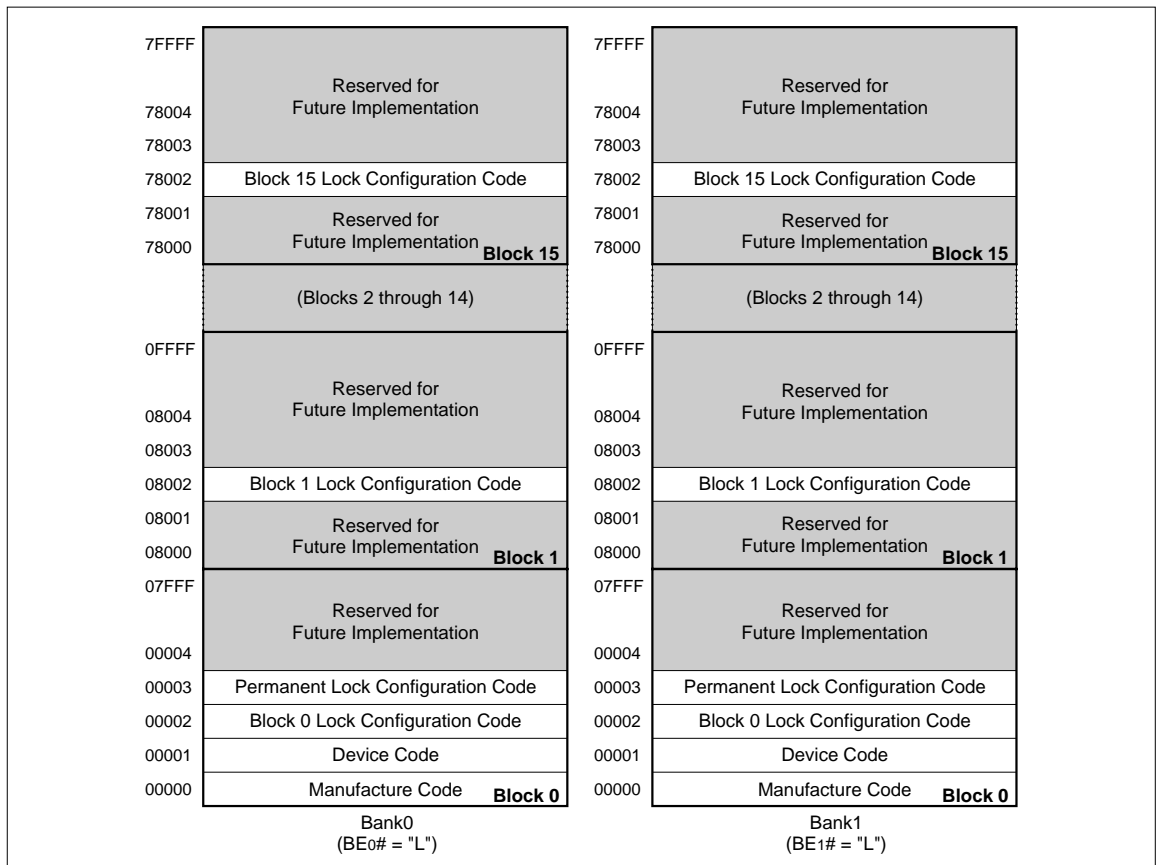

Fig. 2 Device Identifier Code Memory Map
The read identifier codes operation outputs the manufacture code, device code, block lock configuration codes for each block, and the permanent lock configuration code (see **Fig. 2**). Using the manufacture and device codes, the system CPU can automatically match the device with its proper algorithms. The block lock and permanent lock configuration codes identify locked and unlocked blocks and permanent bank lock-bit setting.
IA = Identifier code address : see **Fig. 2**.
The identifier code operation is initiated by writing the Read Identifier Codes command. Following the command write, read cycles from addresses shown in **Fig. 2** retrieve the manufacture, device, block lock configuration and permanent lock configuration codes (see **Table 4** for identifier code values). To terminate the operation, write another valid command. Like the Read Array command, the Read Identifier Codes command functions independently of the VPP voltage and RP# can be VIH or VHH. Following the Read Identifier Codes command, the following information can be read :
1. X selects the specific block lock configuration code to be read. See **Fig. 2** for the device identifier code memory map.